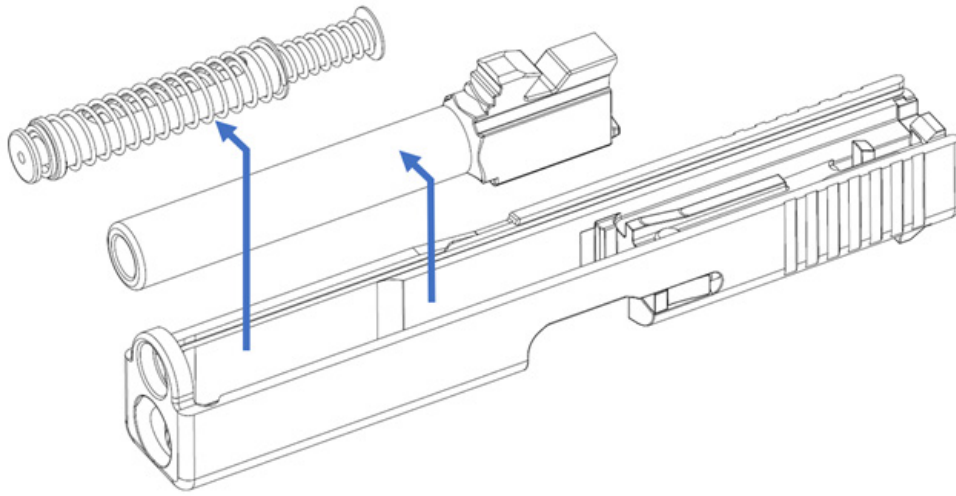

Figure 20: Recoil Spring Assembly and Barrel.
1. Remove the pistol's slide following the manufacturer's instructions. Once removed, take out the recoil spring assembly and barrel (Figure 20).